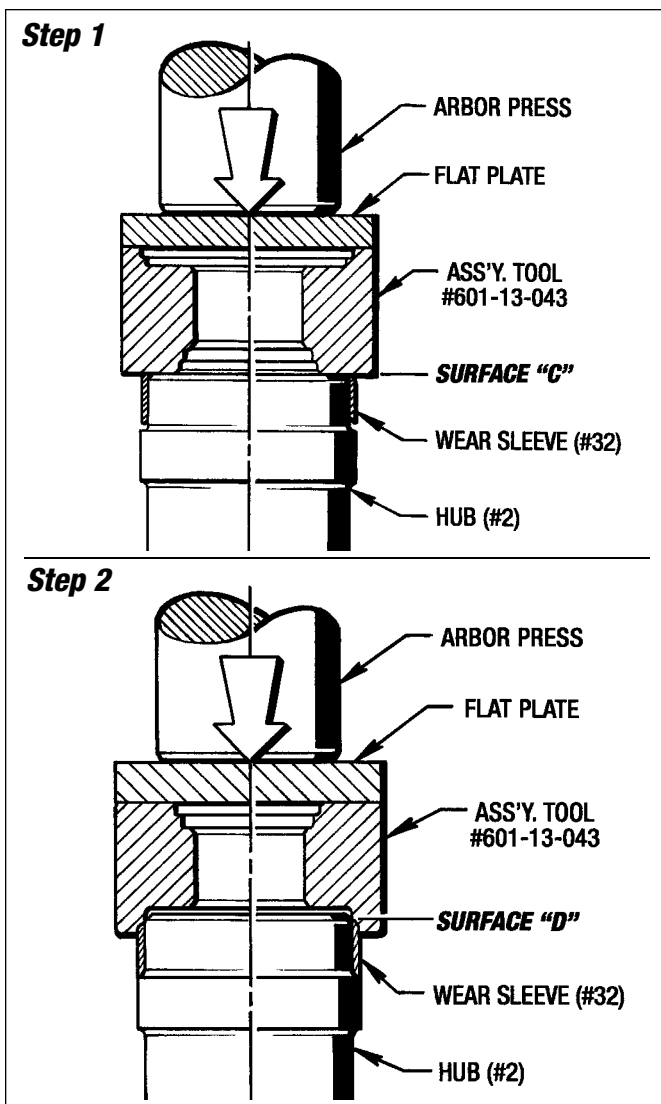

Figure 9.5 - Installing Wear Sleeve (#32)
1. Apply **Red Loctite #262** to the **Hub (#2)** diameter. Press the **Wear Sleeve (#32)** with **Surface "C"** of the **Assembly Tool** on to the **Hub (#2)** as far as it will go as shown in **Step 1** of Figure 9.5.
2. Turn the **Assembly Tool** over and with **Surface "D"** finish seating the **Wear Sleeve (#32)** until it bottoms out on the hub shoulder. (See **Step 2** of Figure 9.5.)